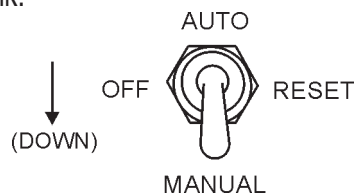

Figure 40. Off/Manual/Auto Switch (Manual)
8. Place the Off/Manual/Auto switch (Figure 40) in the **MANUAL** position (down). Observe that the engine begins to crank.